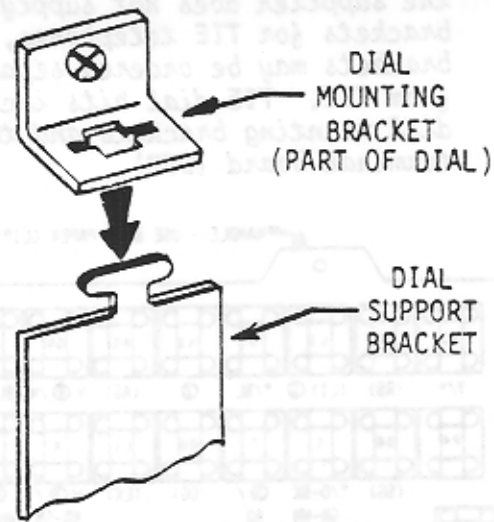

Figure 5 - Dial Mounting Arrangement
- k) The dial is then mounted by placing the slots of the dial brackets over the tabs of the support brackets and sliding the complete dial assembly to the right (see figure 5).